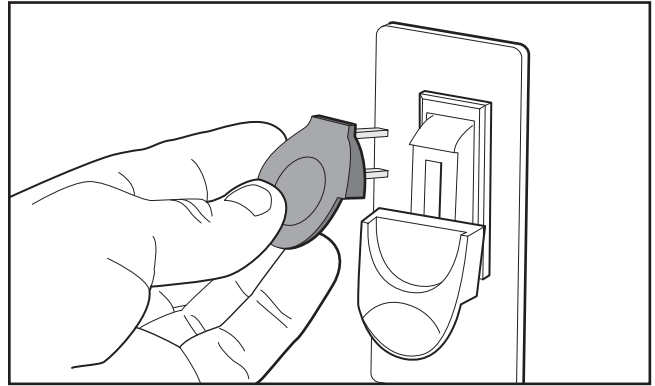

Figure 23. Removing switch disabling key from paddle switch.
4. Remove switch disabling key, as shown in **Figure 23**.